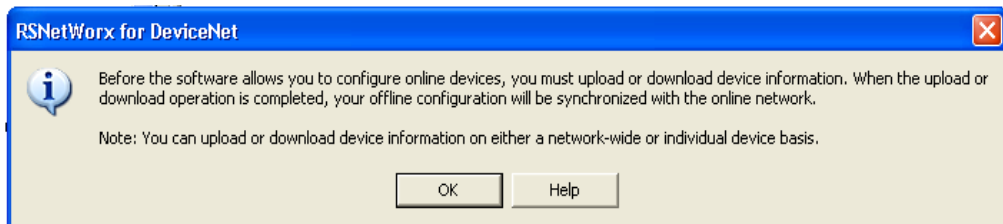

Figure 5-19: Confirmation Dialog Box
3. Click OK to continue. A dialog box like the one shown in Figure 5-19 will appear. Note that you may be asked to upload or download, depending on the version of software used.